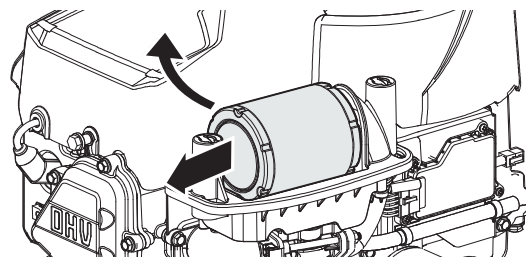

Figure 9
3. Pull up on an angle and then forward to remove the air filter (Figure 9).